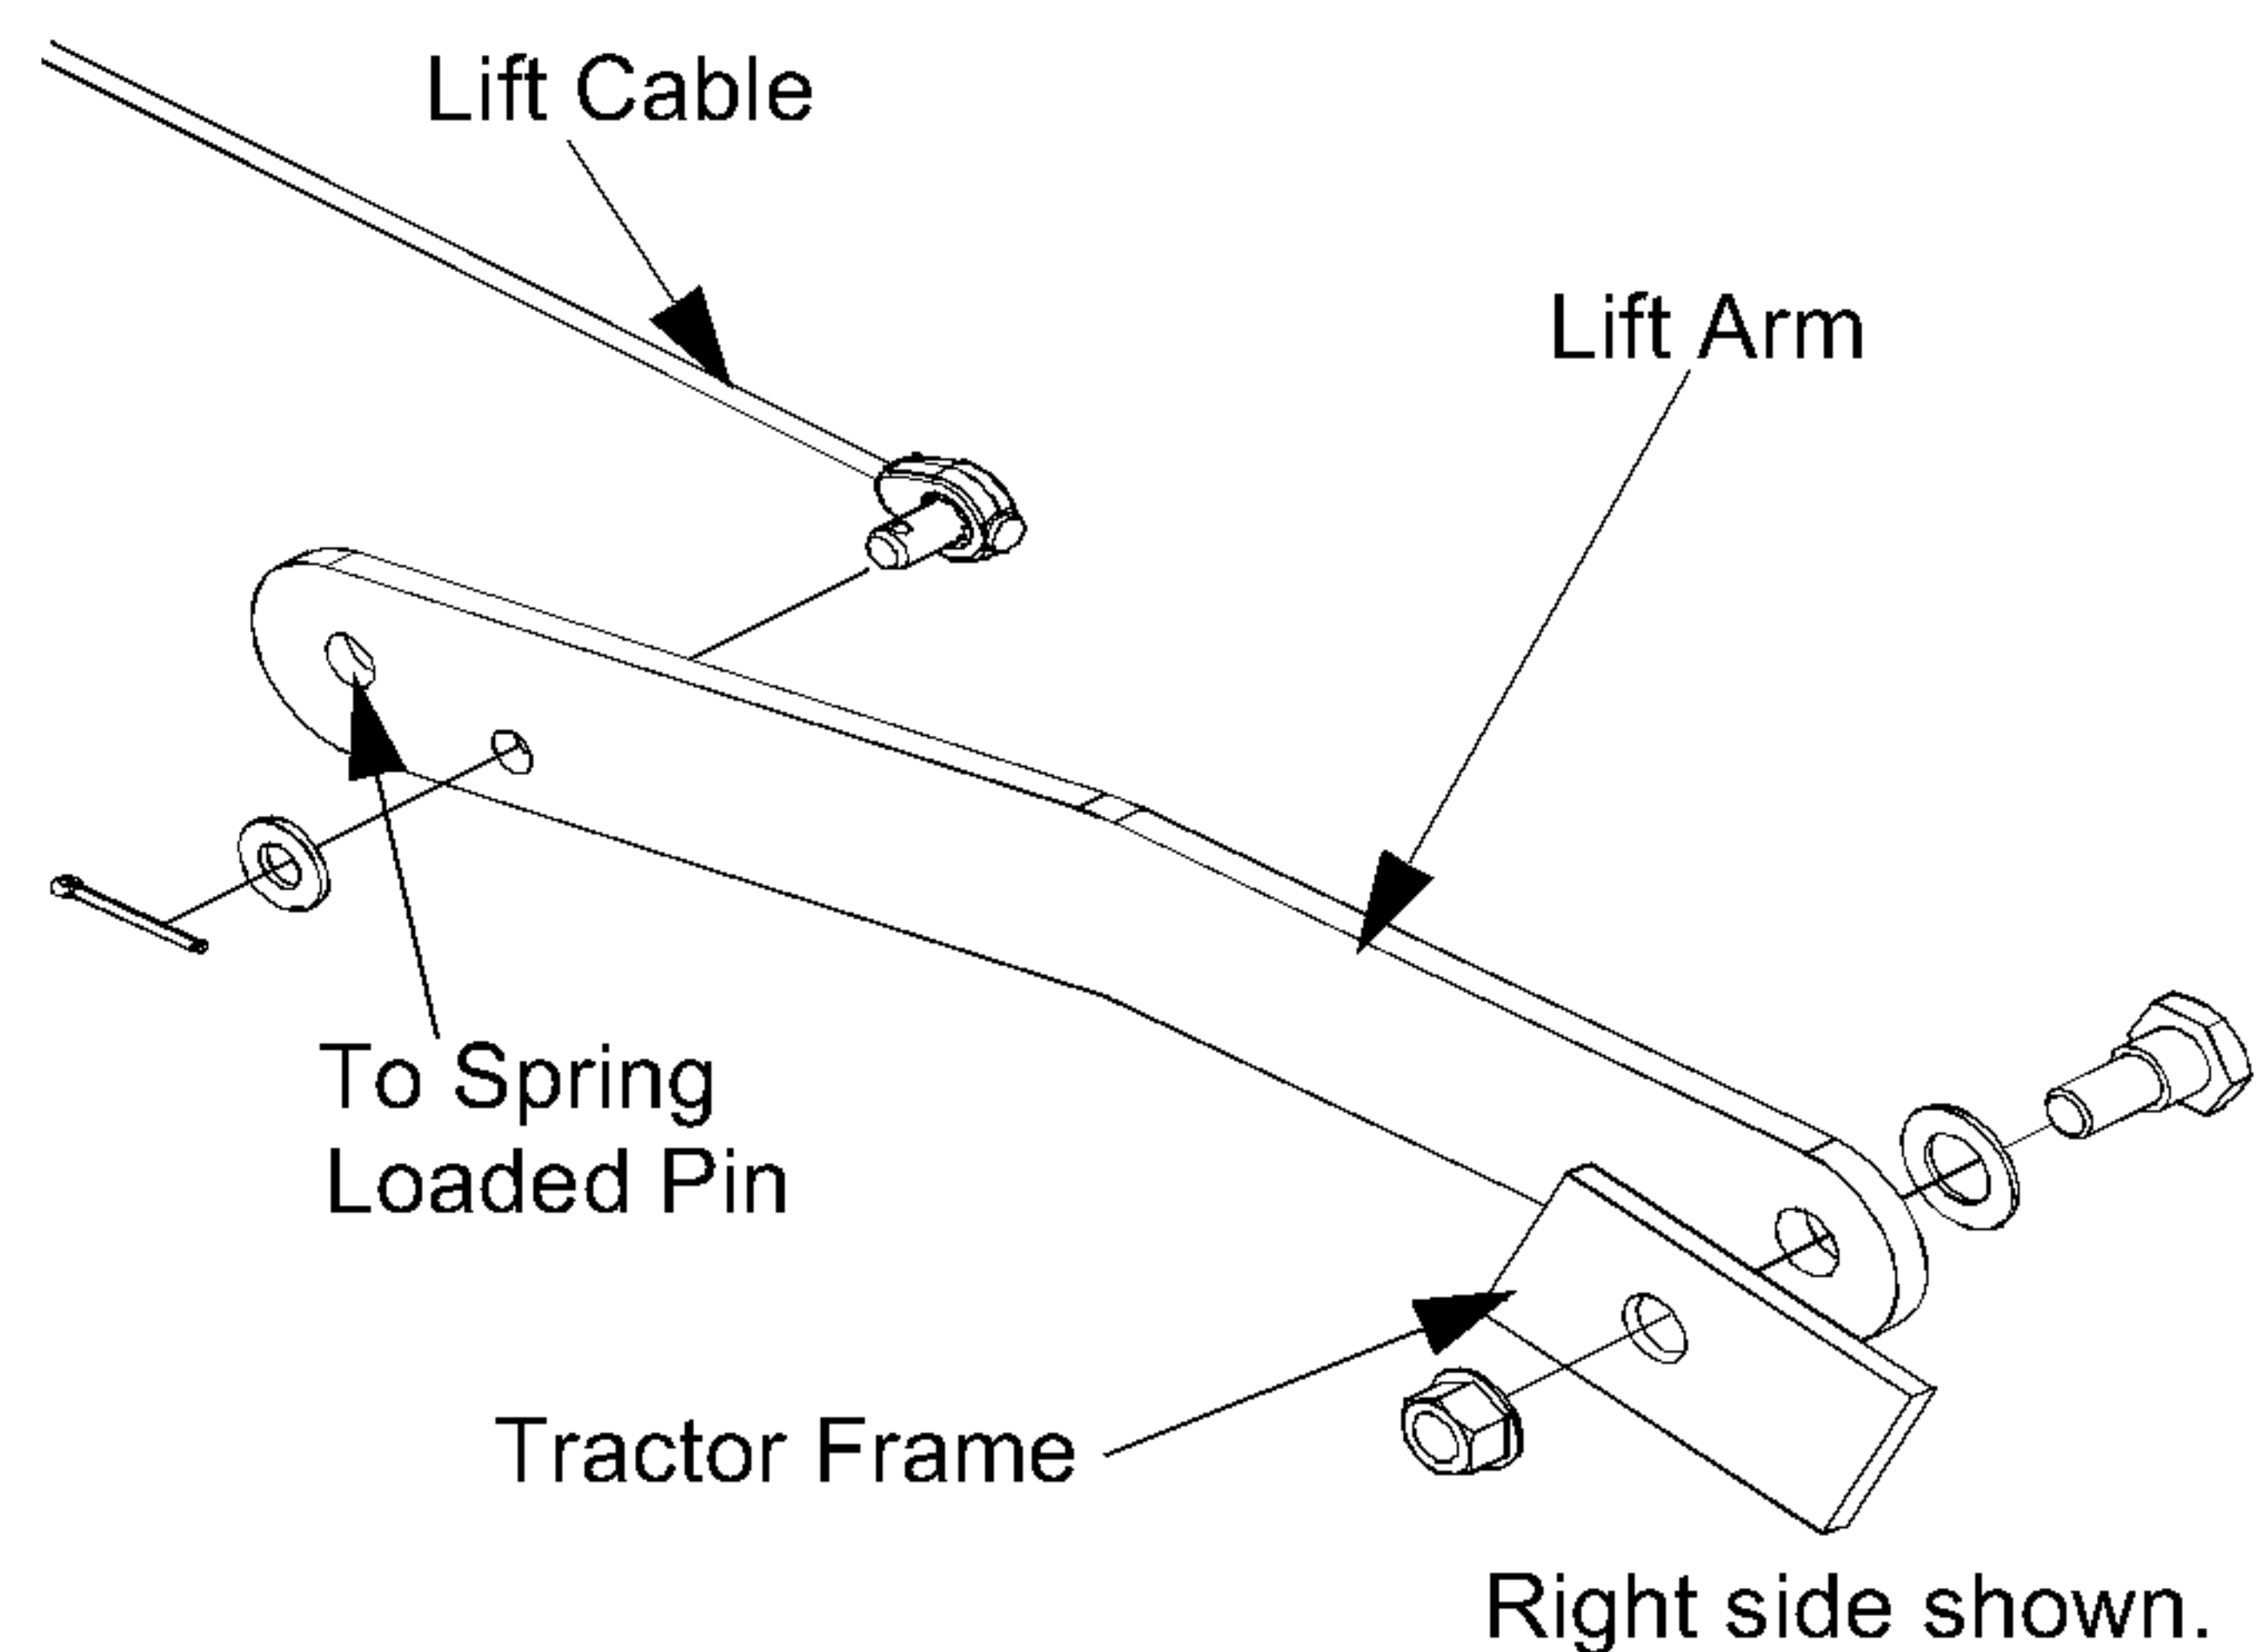

Figure 2
1. Remove the **lift arms** from both sides of the tractor by disconnecting them from the spring loaded pins at the rear of the deck, the **lift cables**, and the **tractor frame**. See Figure 2.